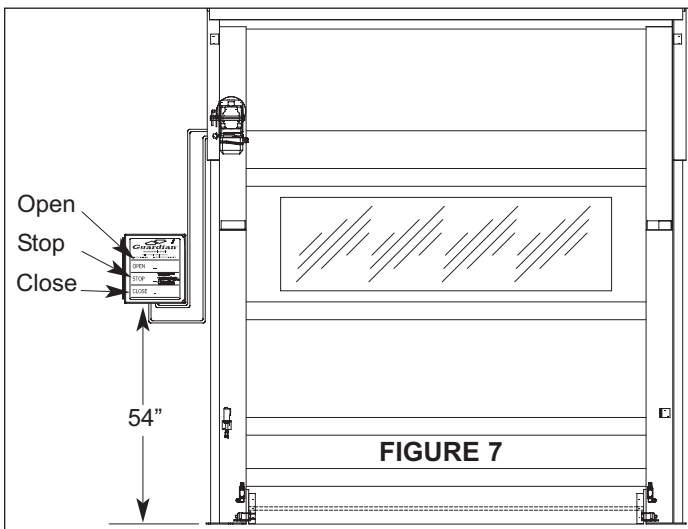

FIGURE 7
2. All holes and conduit run into the control box must be through the bottom, Figure 7.
1. Install control box and remote disconnect (supplied by others), approximately 54" above floor level, Figure 7.
4. The STOP button stops the curtain operation at any time during its travel, Figure 7.
6. The CLOSE button closes the curtain. To close, press the button, Figure 7.